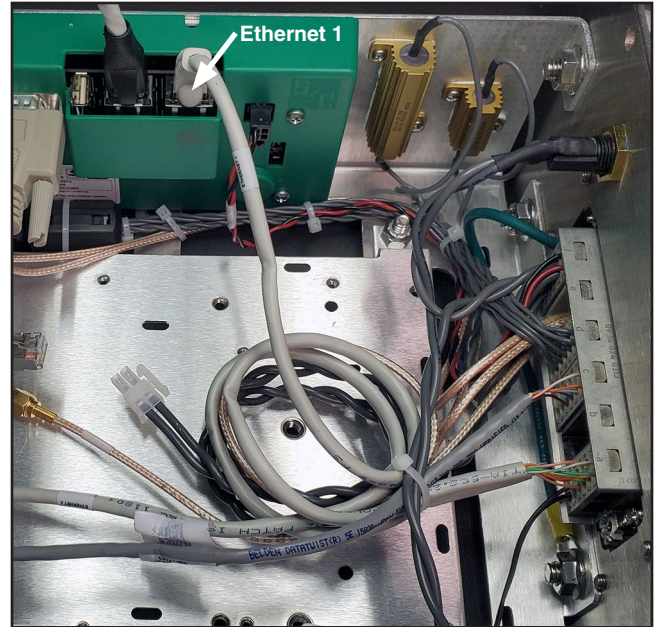

Figure 18. The RJ45 cable from the control plugged into Ethernet 1.
- STEP 2.** At the Wi-Fi/GPS module, plug the RJ45 cable from the control into Ethernet 1 on the Wi-Fi/GPS module. See Figure 18.